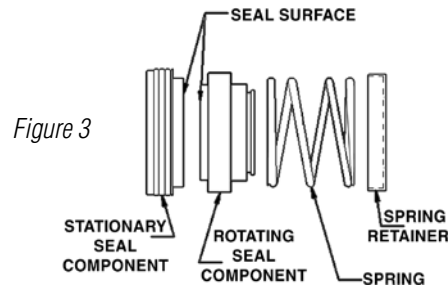

Figure 3
5. Lubricate the inside of the rotating seal component with a chemically compatible lubricant and carefully slide it over the shaft adapter with a rotating face pointing at the motor (as shown in figure 3).